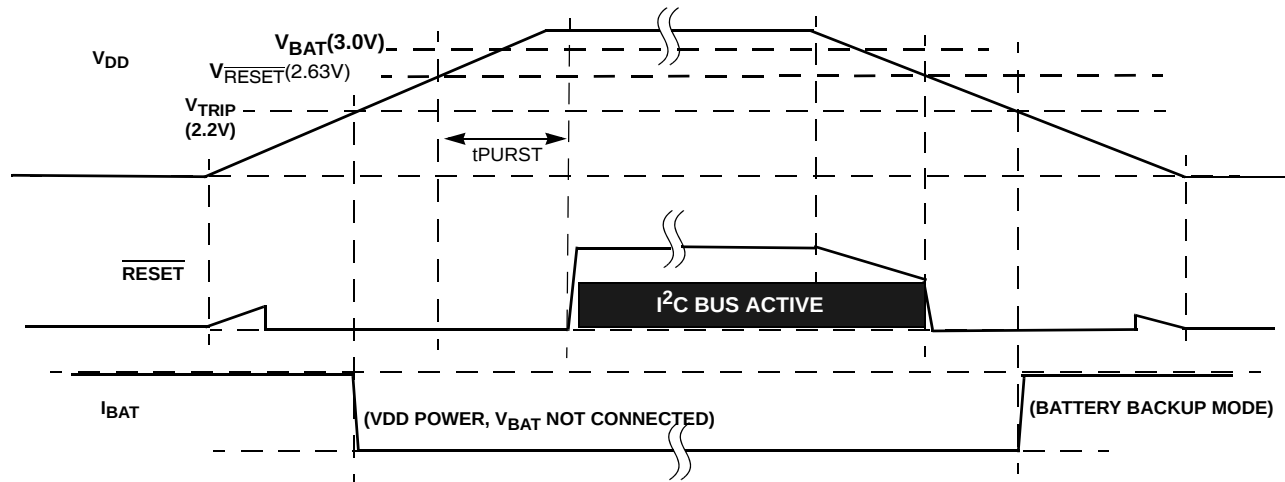

FIGURE 29. EXAMPLE RESET OPERATION IN MODE A OR C
Mode. In actuality the V_{DD} will go below V_{RESET} before switching to battery backup, which will disable I^2C ANYTIME the device goes into Battery Backup Mode. Regardless of the battery voltage, the I^2C will work down to the V_{RESET} voltage (see Figure 29).
- Mode D - In this mode the selection bits indicate switchover to battery backup at $V_{DD} < V_{BAT}$, and no I^2C communications in battery backup. This mode is unique in that there is I^2C communication as long as V_{DD} is higher than V_{RESET} or V_{BAT} , whichever is greater. This mode is the safest for guaranteeing I^2C communications only when there is a Valid V_{DD} (see Figure 29).